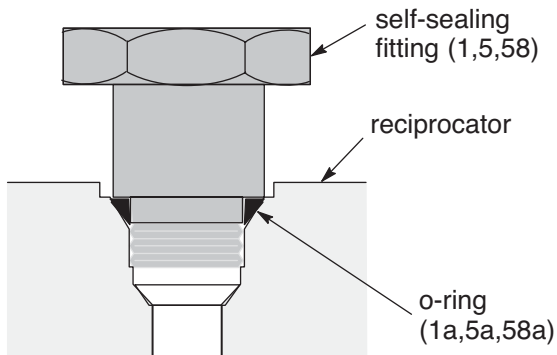

FIG. 4
4. Slowly loosen the hydraulic supply (58) and return (5) fittings to relieve any pressure, and remove the hoses. Install plugs on the tube fittings and in the hose ends. Check the o-rings (5a, 58a) on the fittings, and replace them if they are worn or damaged. See FIG. 4 and the Parts Drawing.
5. Using a strap wrench on the displacement cylinder (108), screw it out of the pump adapter (43), and pull it off the pump.
6. Pull the connecting rod (35) down as far as it will go.
7. Remove the cotter pin (204) from the bottom of the displacement rod assembly (34), and unscrew the connecting rod until it is free.
3. Loosen both nuts on the fluid tube (45). Use a wrench to rotate the tube fittings (1, 58) to the side, and remove the tube (45). Check the o-rings (1a, 58a) on the fittings, and replace them if they are worn or damaged. Install plugs in the fittings to prevent contamination. (FIG. 4)